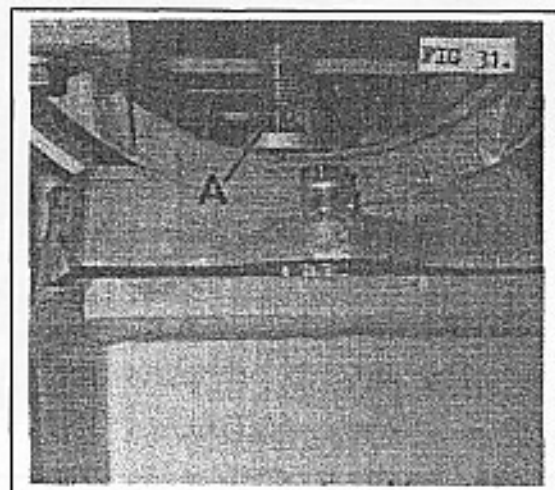

Fig 31
2. Loosen nut 'A' (FIG 31).
3. Cant table to desired angle and relock nut 'A' (FIG 31)